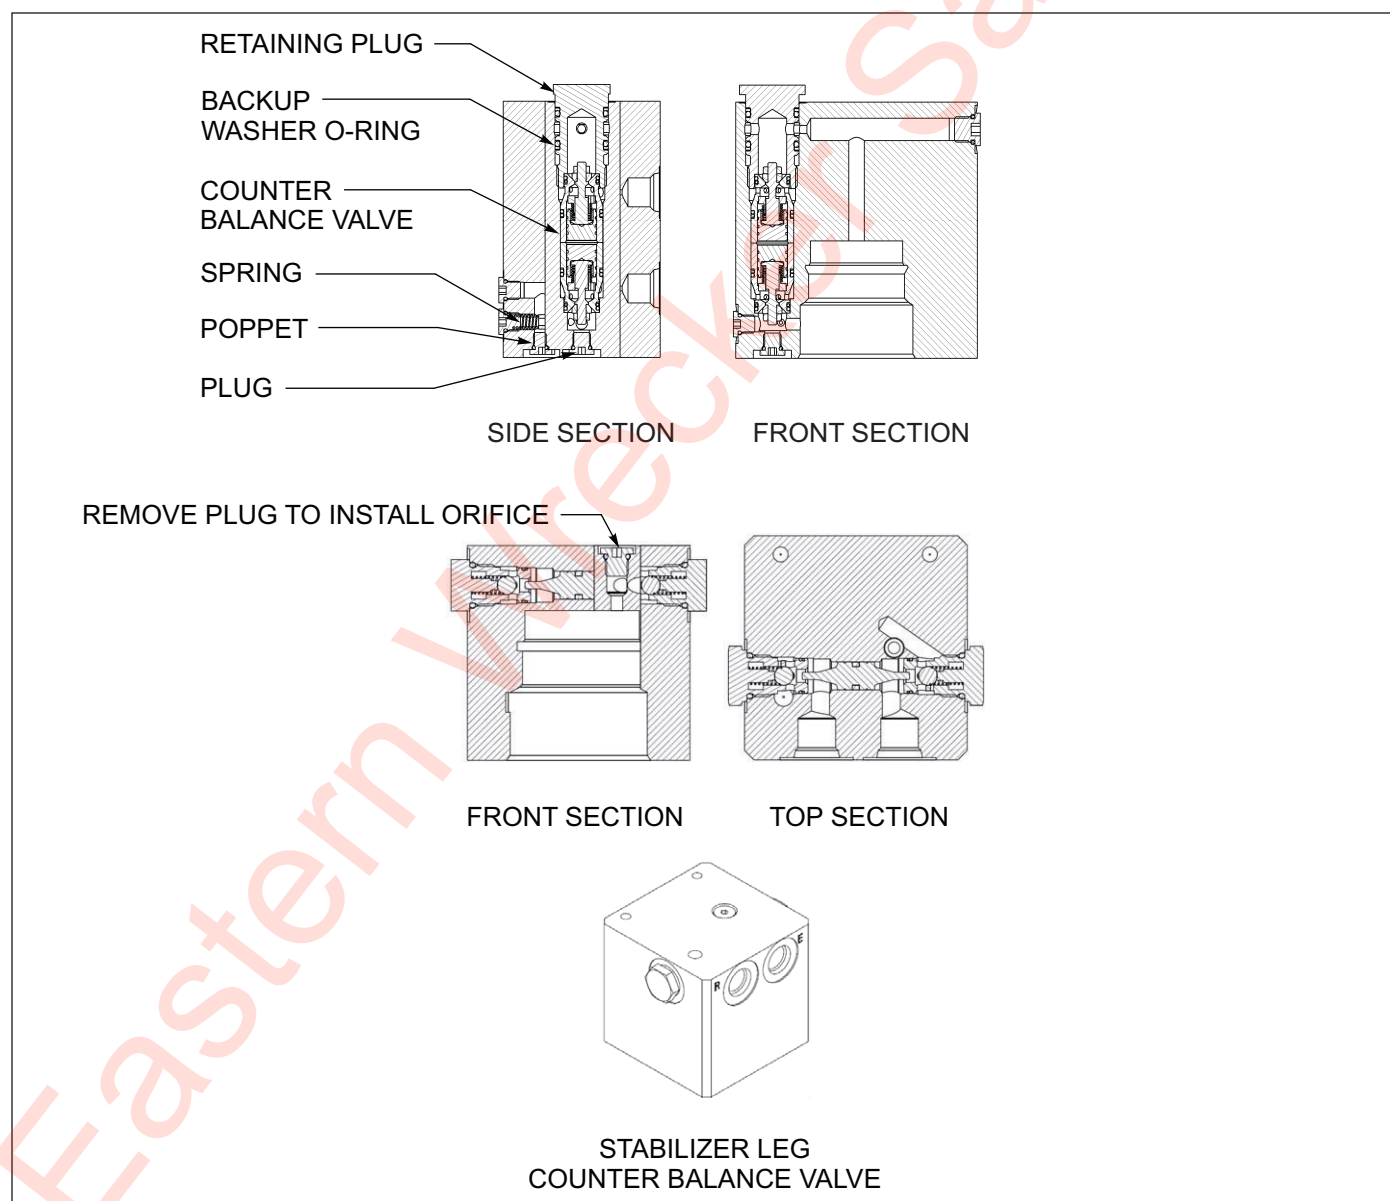

Figure 4-25: Stabilizer Leg Counter Balance Assembly
2. Remove retaining plug (See Figure 4-25.)